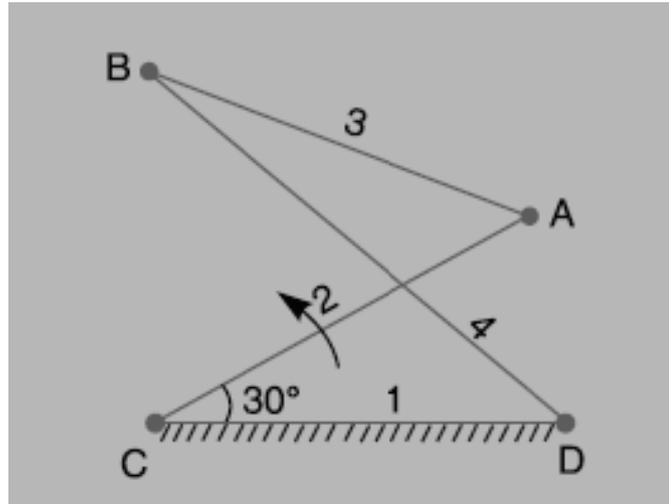

Fig.2
- b. Locate all the instantaneous centers for the crossed four bar mechanism as shown in Fig.2. The dimensions of various links are: $CD = 65$ mm; $CA = 60$ mm; $DB = 80$ mm; and $AB = 55$ mm. Find the angular velocities of the links AB and DB , if the crank CA rotates at 100 r.p.m. in the anticlockwise direction.